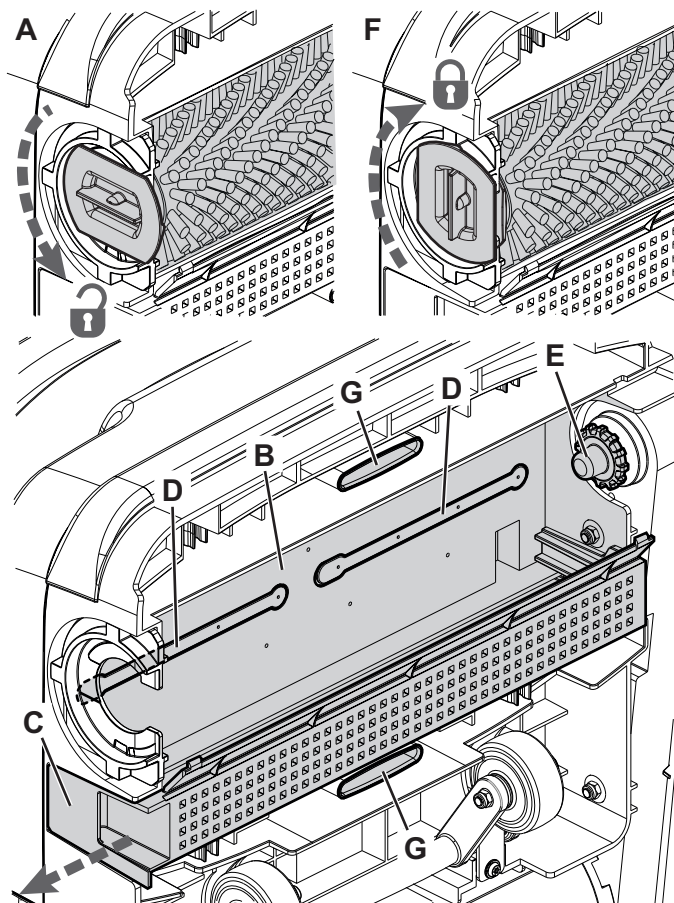

Figure 10
6. Before installing the squeegee bars, clean the recovery water duct (G, Fig. 10) thoroughly.
7. Install the squeegee bars (20) and make sure they are properly engaged.
1. Turn the lever (A, Fig. 10) counter-clockwise and remove the brush.
2. Clean and wash the cylindrical brush (18) with water and detergent.
4. Carefully clean the brush compartment (B).
5. Remove the debris collection tray (C), clean it and rinse it with clean water, then put it back in its seat.
6. Disassemble the solution dispensers (D) and clean them with water and detergent, then rinse and reassemble in the relevant housings.
7. Reinstall the cylindrical brush (18) on the drive hub (E) and engage it by turning the lever (F) clockwise.